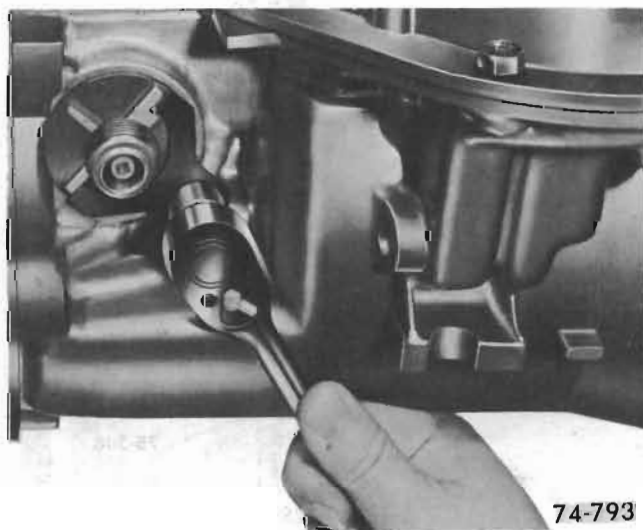

Figure 76-278
2. Install the speedometer driven gear retainer and attaching bolt. See Figure 76-278.